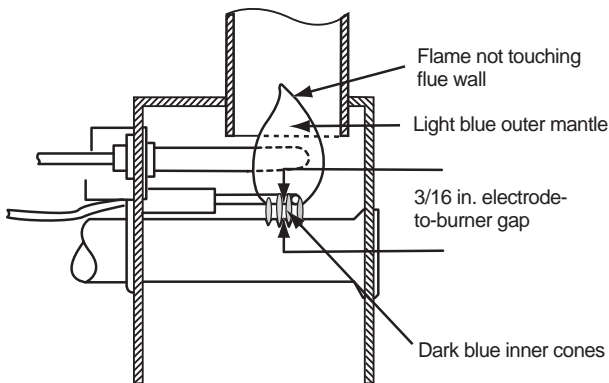

Figure 24. Gas flame appearance.
A five slot burner is the combustion chamber for the propane gas. Poor or no cooling while operating on propane gas can usually be traced to a dirty, clogged, or damaged burner. In most instances, a weak or erratic flame indicates the burner and orifice need service. The burner flame appearance should always conform to the pattern shown in Figure 24. To check burner performance:
3. Open the burner box inspection port. Refer to Figure 24 for flame appearance guidelines.